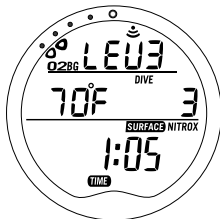

Fig. 36 - Surface Mode (O2)
- > Upper/Left - Mode (M) button
- > Upper/Right - Select (S) button
- > Lower/Right - Light (L) button
- > Lower/Left - Advance (A) button
- Depressing and holding the A button for 2 seconds will replace the Nitrogen Bar Graph with the O2 Bar Graph and the O2BG icon for 3 seconds (Fig. 36).